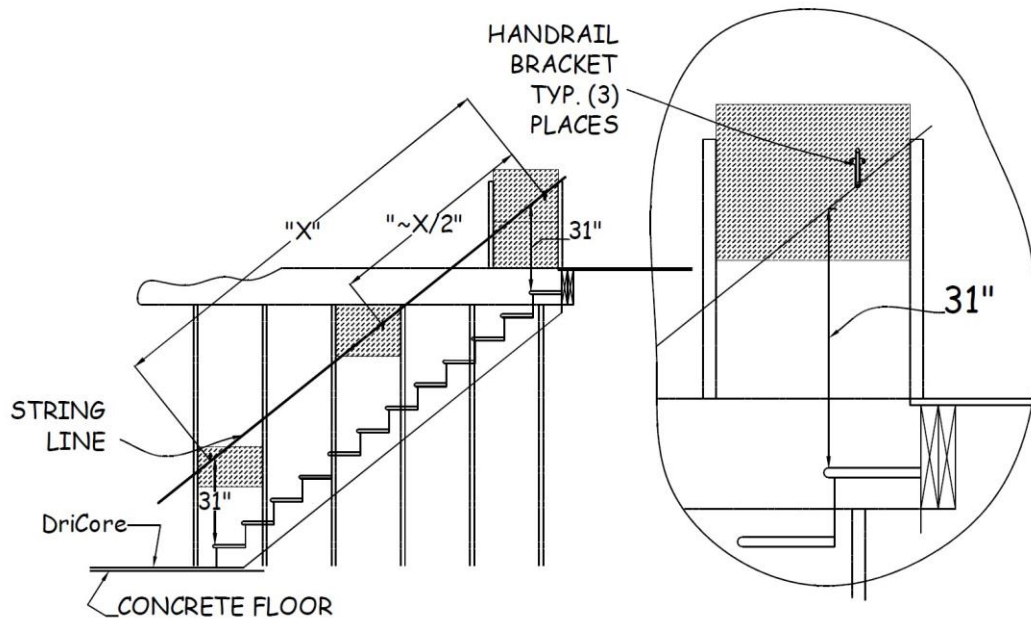

Figure 16-2. Handrail Bracket Installation.
4. Along this line, first mark the wall for locations of the top and bottom handrail brackets. Locate the top bracket 10-12" from the top end of the stairway wall and the bottom bracket 10-12" from the bottom end of the stairway wall, or from door trim if present (see Figure 16-2). Check for blocking or stud with an 8d or $2\frac{1}{2}$ " finish nail.
NOTE: Blocking has been installed for the handrail at the top, middle, and bottom of the stairs (see Section 10.5.5 and Figure 16-2).
angle of the template is correct, use it to mark for cutting. If not, use the adjustable bevel angle established above. This will establish Point 1 (see Figure 16-2).